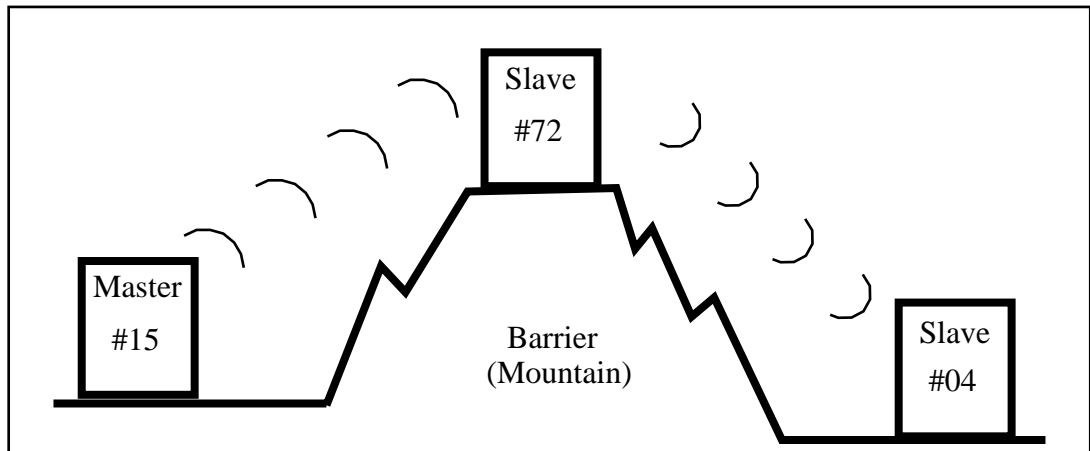

Figure 15-2 RNIM Repeater Example
Figure 15-2 displays an RNIM Master (15) on one side of a mountain, a Slave (04) on the other side of the mountain, and a Slave (72) at the top that can communicate with the other two. If a source on the Master's network (16) wants to send a READ to a PLC (87) on the Slave's network on the other side of the mountain, the route would be: 16, 15, 172, 4, 87.